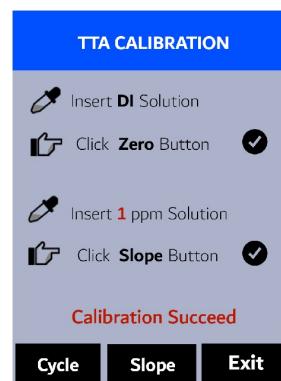

Figure 6.
9. If the calibration succeeds, a checkmark () , a "**Calibration Success**" message will appear (Figure 6). Otherwise, a warning message is displayed.